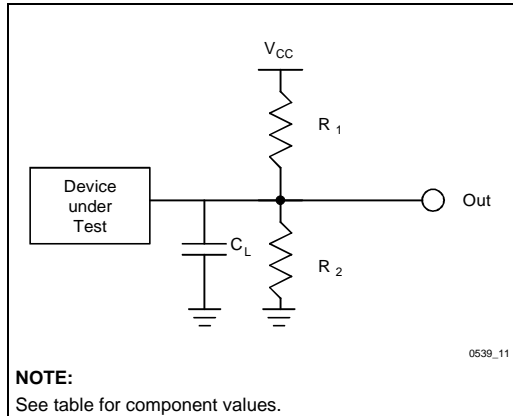

Figure 19. Test Configuration
5. See Test Configurations (Figure 19), 2.7V–3.6V and 3.3±0.3V Standard Test component values.
6. See Test Configurations (Figure 19), 5V Standard Test component values.
9. See Test Configurations (Figure 19), 2.7V–3.6V and 3.3 ± 0.3V Standard Test component values.
10. See Test Configurations (Figure 19), 5V Standard Test component values.